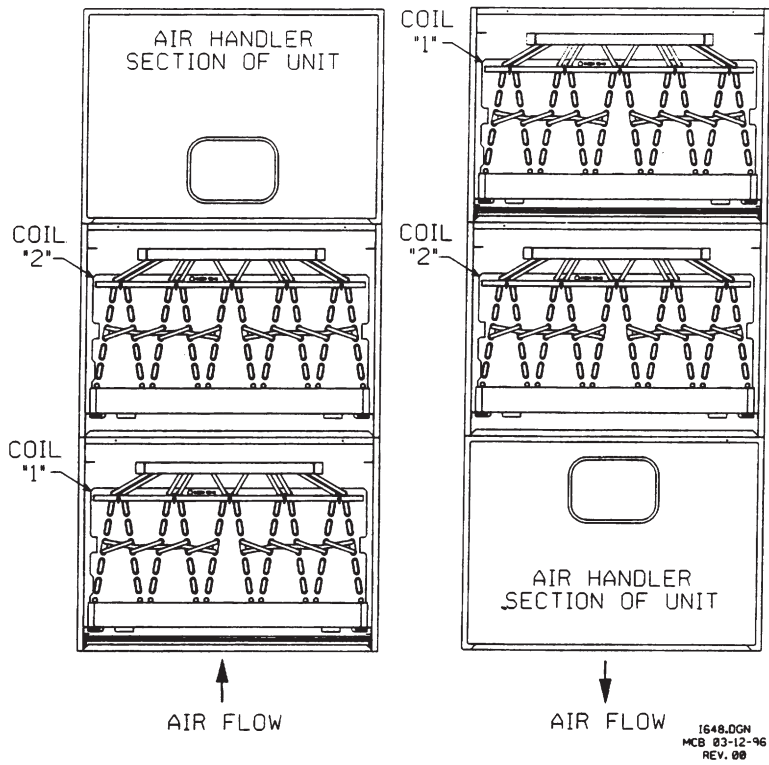

FIGURE 3. UNIT CONFIGURATION
*Reference Figure 3 to identify proper location of Coil #1 and Coil #2.